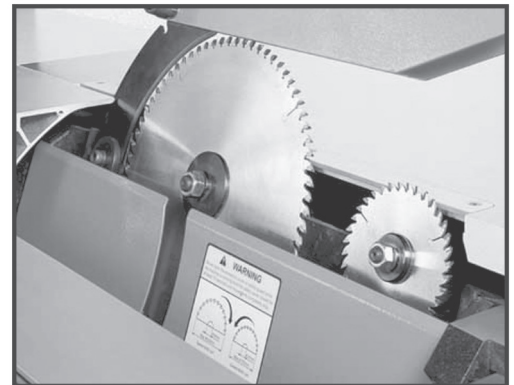

Fig. 4
3. Scoring saw blade : It rotates opposite the main saw blade, the blade cores the workpiece before the actual cutting operation is performed preventing tear-out in laminate materials. The scoring is adjustable forward and backward, upper and down. (Fig. 4)